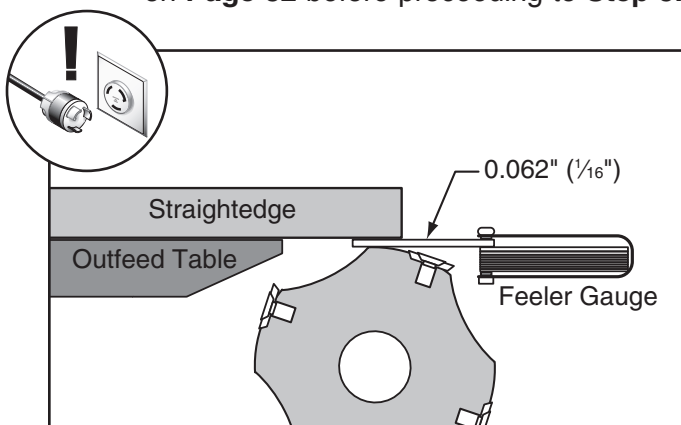

Figure 68. Using feeler gauge to check outfeed table cutterhead height.
4. Try to fit a feeler gauge or combination of feeler gauges 0.062" to 0.069" between the bottom of the ruler and the cutterhead body as shown in **Figure 68**.